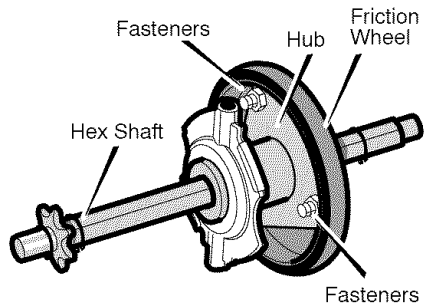

Figure 49
11. Remove the three **fasteners** that hold the **friction wheel** to the **hub** (see Figure 49).